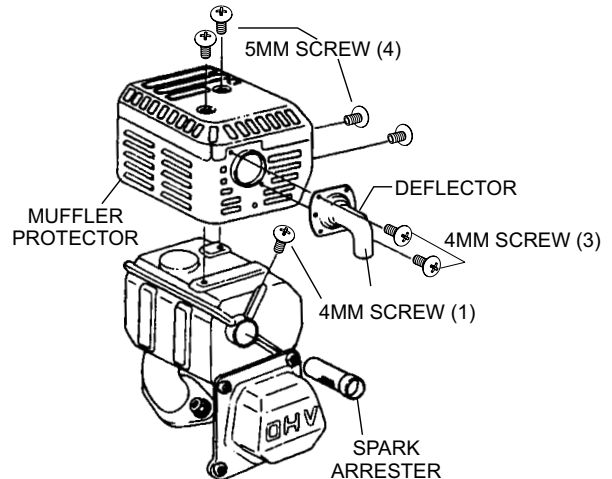

Figure 21. Spark Arrester Removal
1. Remove the 4 mm screw (3) from the exhaust deflector, then remove the deflector. See (Figure 21).
2. Remove the 5 mm screw (4) from the muffler protector, then remove the muffler protector.